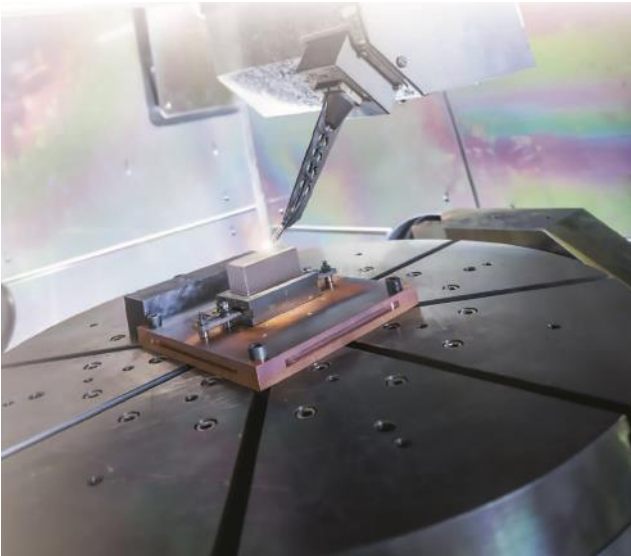

Figure 15: Wire build-up welding for challenging metals such as copper, titanium and stainless steel.
- 3D-printing technology with wire build-up welding (Figure 15)